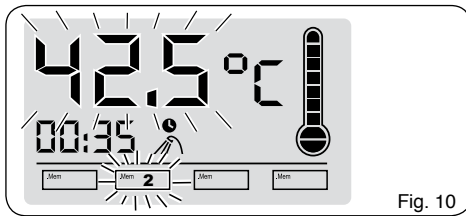

Fig. 10
You can use the 4 spray positions in the handshower (Fig. 10) to adjust the recommended temperature. Turn off the shower. It is now ready for use.
The memorized temperature will flash for 3 sec. Use the Up/Down arrows touch button to Increase/Decrease temperature settings by increments of 0.5°C ,when desired temp. appears, press on the Mem/Set touch button continuously for 5 seconds. and temperature will flash (Fig.10), indicating that the memory set is saved.
2. When choosing the position of the riser rail, (Fig.10) allowances should be made to accommodate the tallest person using the shower on a regular basis.